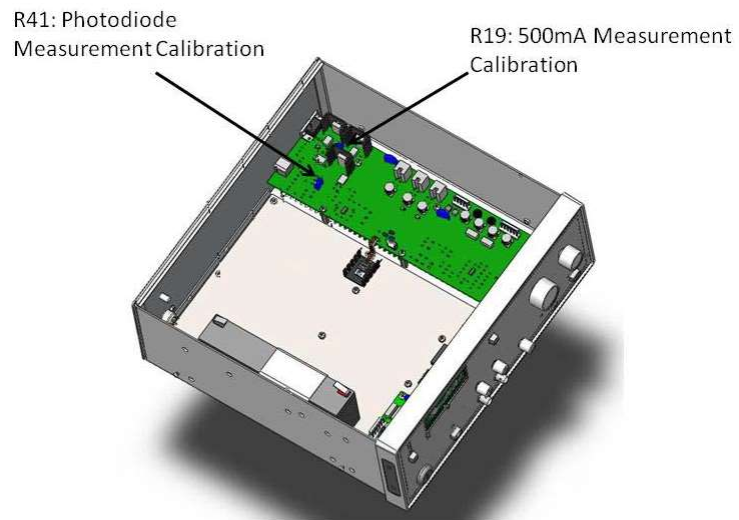

Figure 3.4 Photodiode and 500 mA Measurement Calibration Position
- 8 Allow the output to settle (approximately 10 seconds). Slowly adjust R19 on the mainboard (this can be seen in Figure 3.4) until the front panel measurement matches the actual output current of the instrument measured from the ammeter.
- 3 Switch the front panel to display monitor photodiode measurement. With 1mA of measured current on the ammeter, adjust R41 on the mainboard (this can be seen in Figure 3.4) until the front panel measurement matches the measurement taken from the ammeter.